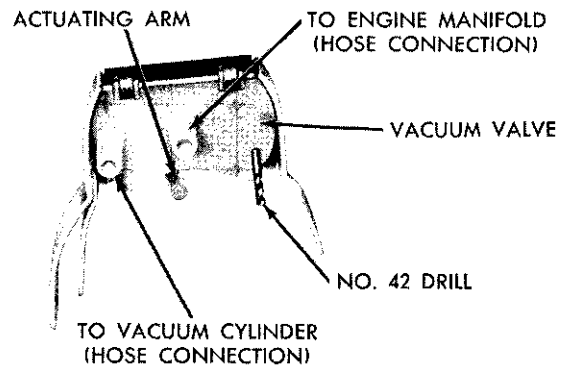

Fig. 4—Parking Brake Vacuum Valve
- (2) Remove vacuum hoses from unit (Fig. 4).
- (3) Remove screws that attach vacuum unit to steering column jacket, then remove vacuum valve.
- To install vacuum valve unit, (Fig. 4), proceed as follows:
- (1) Move actuating arm on valve against spring to extreme position, or until locating holes line up. Install a number 42 drill in hole to properly position valve for installation (Fig. 4).
- (2) Move transmission shift selector lever into “Park” position.
(3) Place valve in position on steering column jacket and install attaching screws. (Do not tighten.) Rotate valve clockwise (viewed from drivers position) until actuating arm contacts tab inside steering column jacket. Tighten screws securely.
(4) Remove drill from locating hole.
(5) Install vacuum hoses. (Be sure hose from engine manifold is attached to center fitting on valve (Fig. 4).)
(6) Start engine and check to see that parking brake can be set in neutral and park position, and will release in reverse and drive positions.